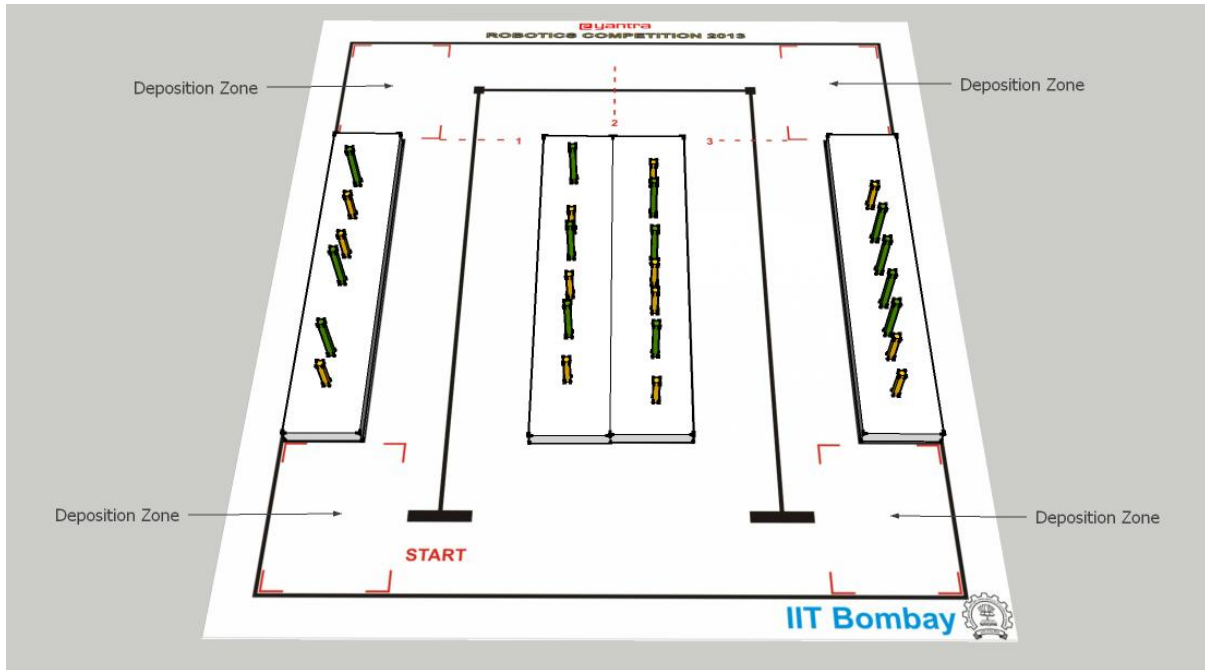

Figure 10: Representing Deposition Zone
10. Robot needs to deposit the uprooted weeds into any of the deposition zones. The deposition zones are shown in Figure 10.